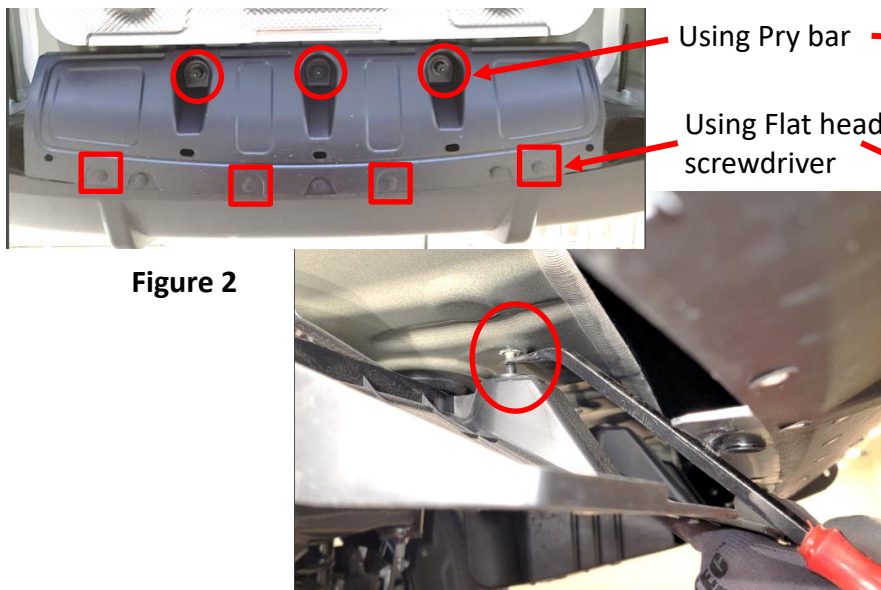

Figure 2
a) Using flat head screwdriver and pry bar, remove (6) plastic rivets from rear underbody panel, see **Figure 2**. Return the rear panel to vehicle owner.